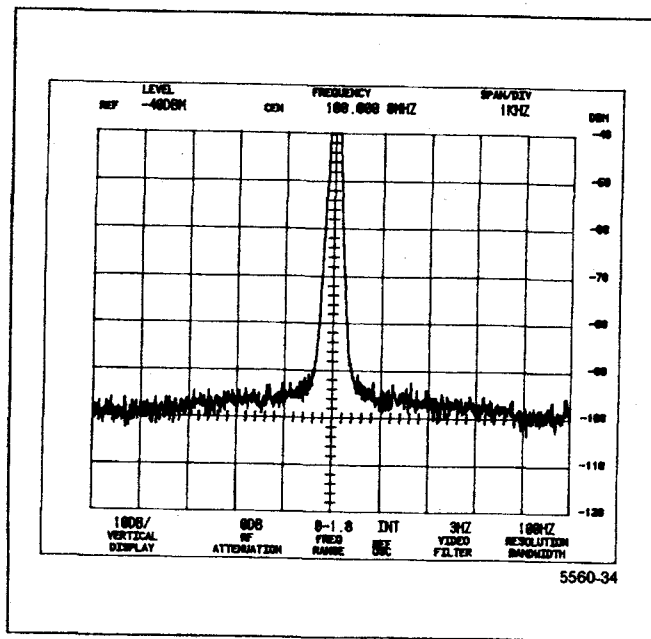

Figure 4-10. Typical display for measuring noise sidebands.
b. Check that the amplitude of the noise sidebands is at least 50 dB down from the reference level at 30 times the resolution bandwidth (3 divisions away from the center frequency position). See Figure 4-10.